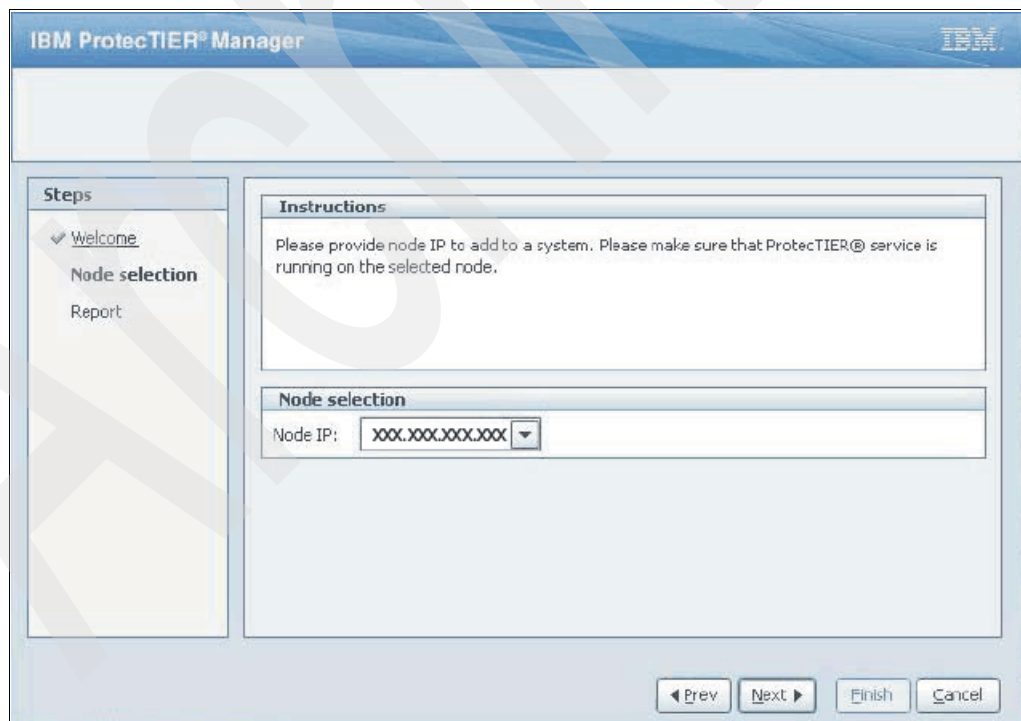

Figure 6-40 PT Manager_Node selection
6. Select **Next** to start the process; the panel shown in Figure 6-40 will appear.